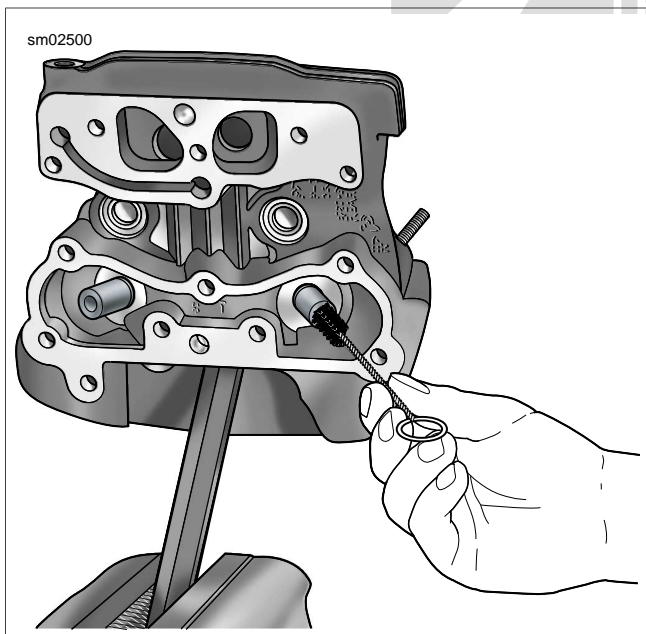

Figure 3-87. Scrubbing Valve Guide Bore
7. See Figure 3-87. Clean valve guide bore with the VALVE GUIDE CLEANING BRUSH (Part No. HD-34751).